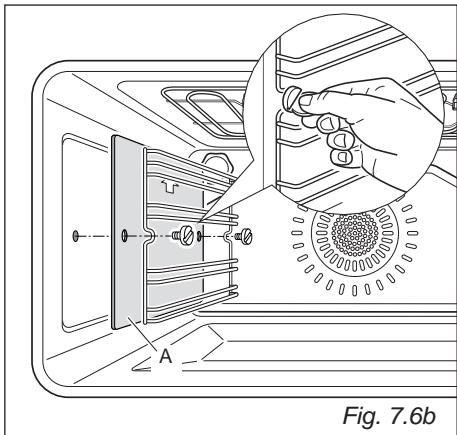

Fig. 7.6b
- In the models with catalytic panels supplied:** interpose the catalytic panels "A" with the arrow up (fig. 7.6b).
- Screw the side racks onto the oven wall (fig. 7.6b).